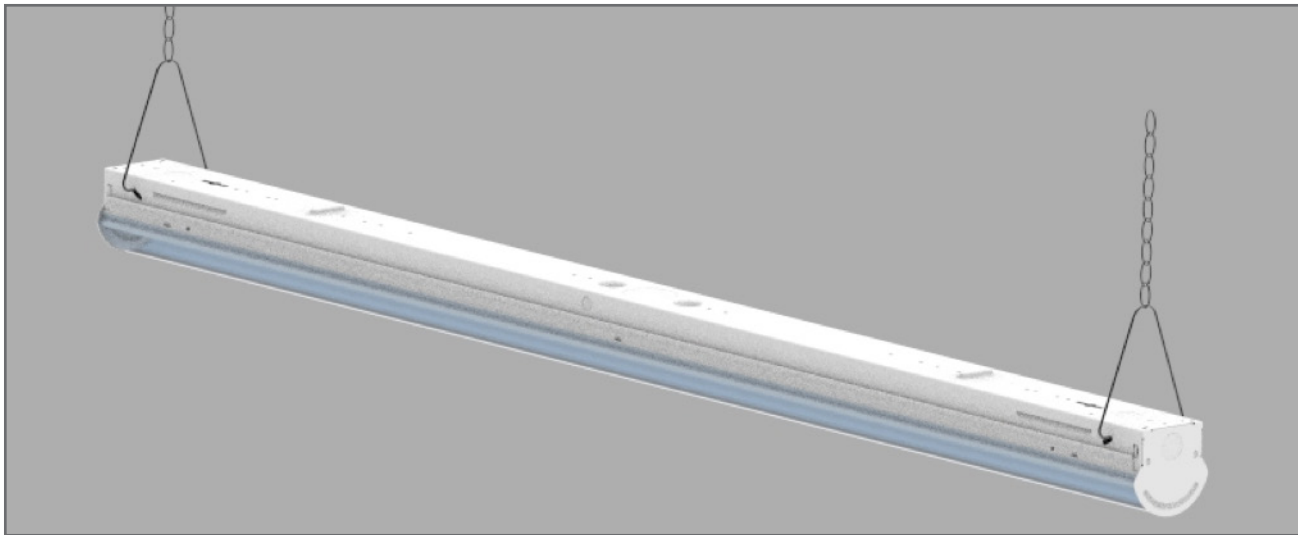

FIGURE 17
4. Insert the ends of the hanger hooks into the slots as shown in Figure 17.